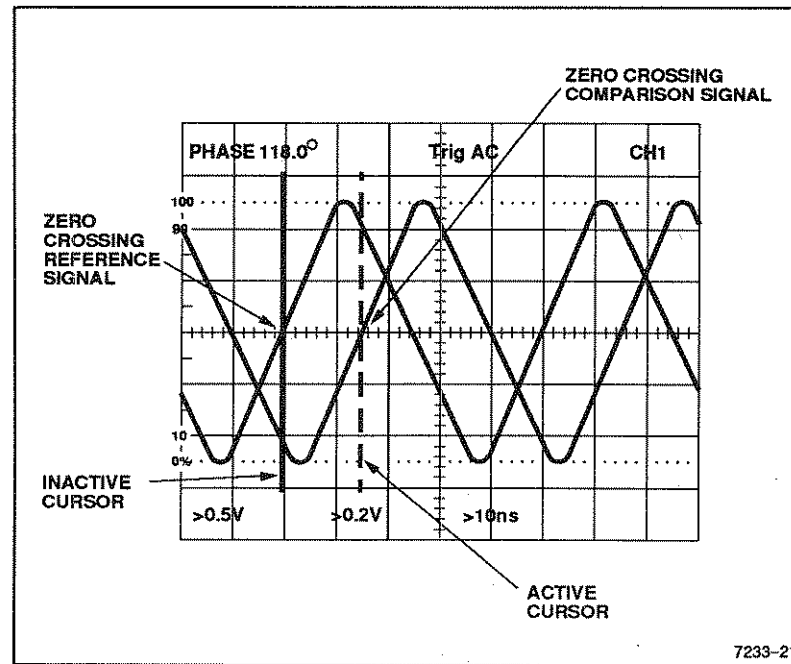

Figure 6-9. Phase difference between two time-related signals.
9. Do not change the SEC/DIV or Variable SEC/DIV controls. Position one cursor to the first zero-crossing point on the test waveform (see Figure 6-9).